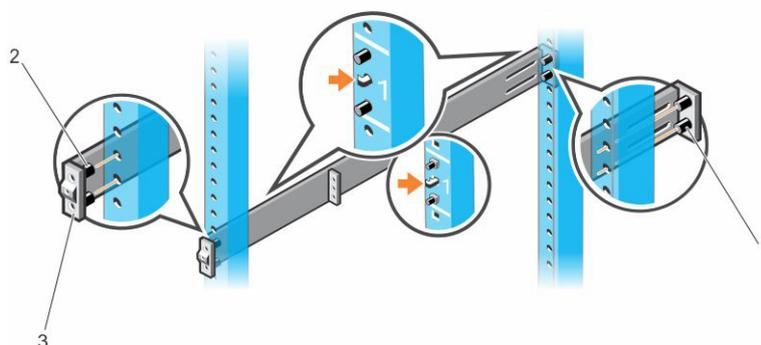

Figure 17. 1U Tool-less Configuration
1. With the ReadyRails flange ears facing outward, place one rail between the left and right vertical posts. Align and seat the back flange rail pegs in the back vertical post flange. To see how the pegs appear in both the square and unthreaded round holes, see Figure 17.